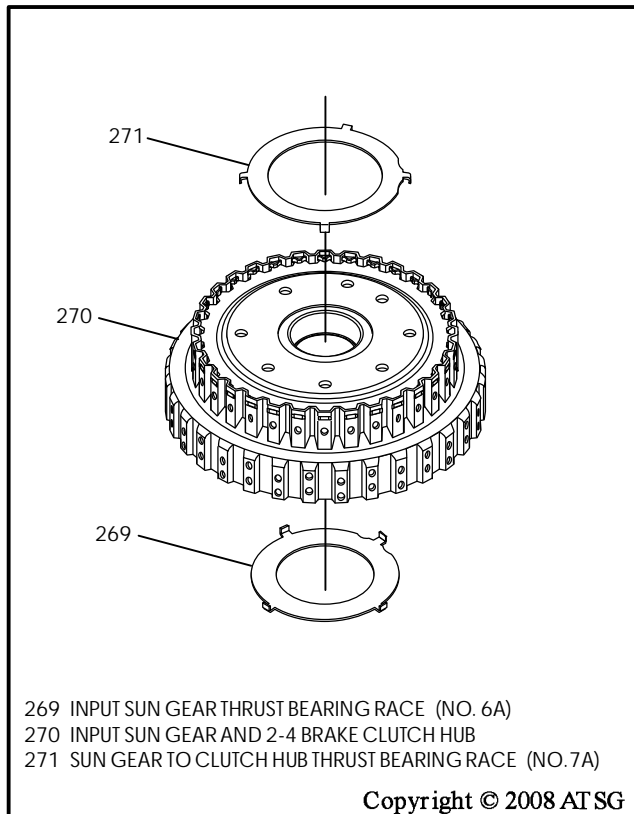

Figure 113
11. Install number 6A thrust bearing race onto the input sun gear and hub, as shown in Figure 113 and retain with small amount of Trans-Jel®.
12. Install number 7A thrust bearing race onto the input sun gear and hub, as shown in Figure 113 and retain with small amount of Trans-Jel®.